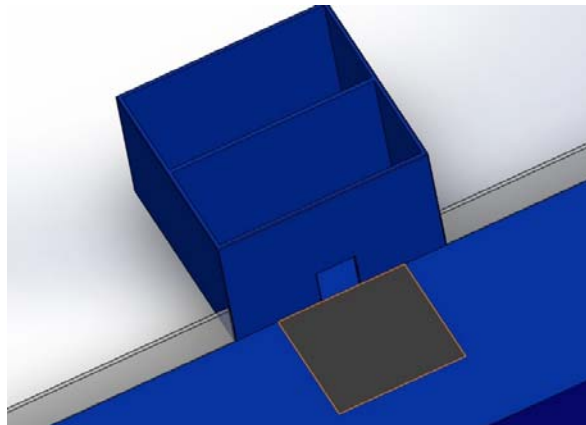

Figure 2: Starting Box
2. Teams to start with their robot inside the square box directly in front of the scoring box (as seen in figure 2). The box is 30cm x 30cm x 30cm and no part of the robot is allowed to exceed the box before the round starts.